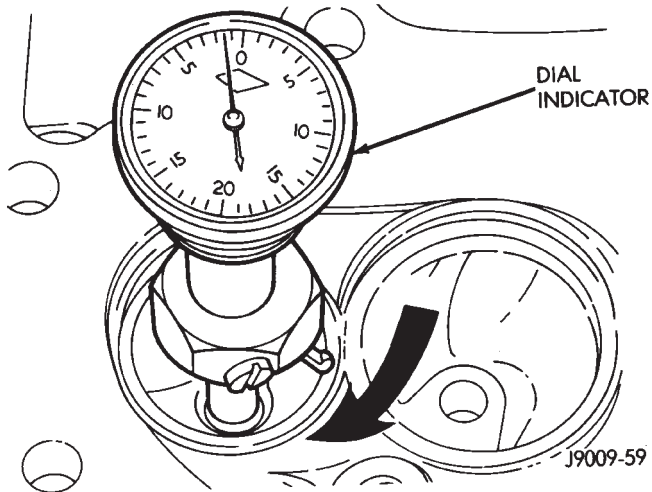

Fig. 68 Measurement of Valve Seat Runout
(1) Install a pilot of the correct size in the valve guide bore. Reface the valve seat to the specified angle with a good dressing stone. Remove only enough metal to provide a smooth finish.
(2) Use tapered stones to obtain the specified seat width when required.
(3) Control valve seat runout to a maximum of 0.0635 mm (0.0025 in.)— (Fig. 68).